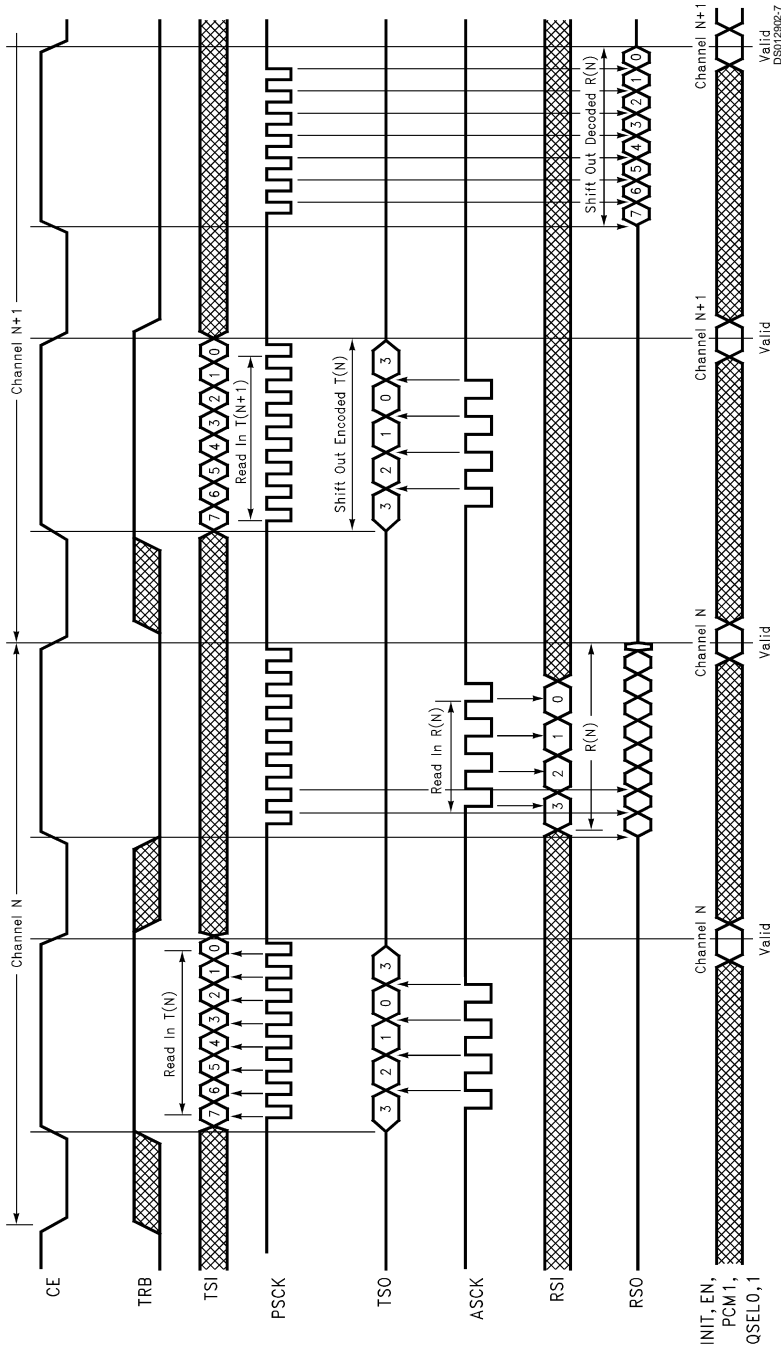

FIGURE 5. Full Duplex Timing Diagram (32 kbps ADPCM mode)
*Figure 4* shows the full duplex timing diagram for the 40 kbps mode. For the 32, 24 and 16 kbps modes only four ASCK low pulses are needed while CE is high (see *Figure 5*).